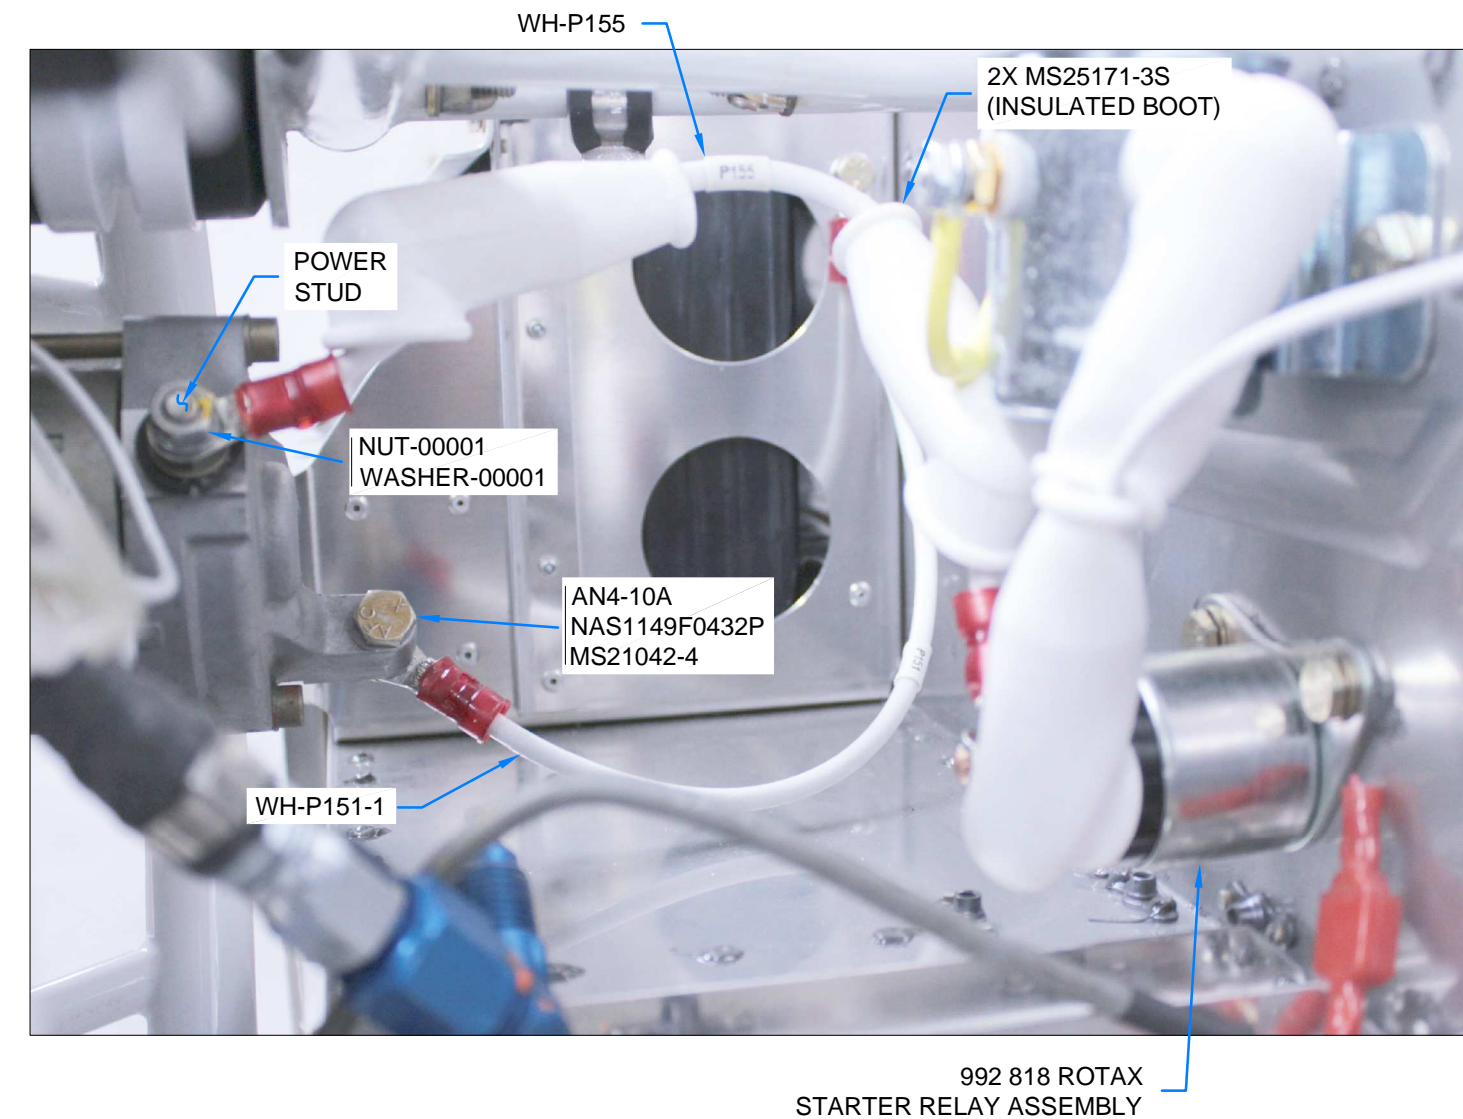

FIGURE 1: CONNECTING STARTER
Step 1: Slide an insulated boot over each end of the WH-P155 (WHT) Starter Power Cable then attach the ring terminal to the power stud on the starter using the hardware shown in Figure 1. Torque the 6mm hex nut to 35 in.-lbs. Attach the other end to the 992 818 Rotax Starter Relay Assembly and torque to 35 in.-lbs. Refer to Rotax 912 ULS Illustrated Parts Catalog Figure 80-10-00-1. Slide the insulating boots into place. See Figure 1.
Step 2: Use the hardware shown in Figure 1 to connect the WH-P151-1 (WHT) Engine Ground Cable to the remaining lug on the starter.